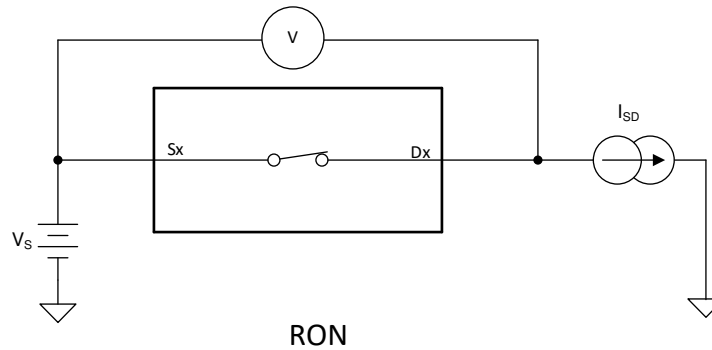

Figure 6-1. On-Resistance
The on-resistance of a device is the ohmic resistance between the source (Sx) and drain (D) pins of the device. The on-resistance varies with input voltage and supply voltage. The symbol  $R_{ON}$  is used to denote on-resistance. Figure 6-1 shows the measurement setup used to measure  $R_{ON}$ . Voltage (V) and current ( $I_{SD}$ ) are measured using the following setup, where  $R_{ON}$  is computed as  $R_{ON} = V / I_{SD}$ :